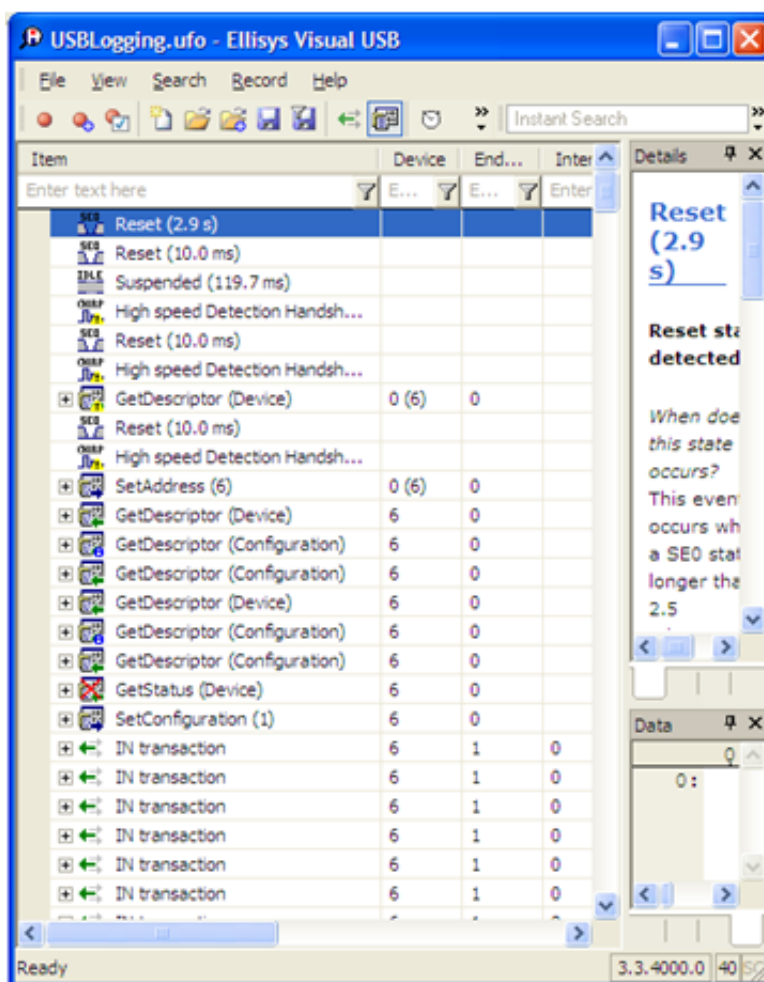

Figure 8. USB log showing USB transactions
12. Communication can be observed by using a USB packet analyzer as shown in Figure 8. USB analyzer used is Ellisys Visual USB viewer. The log file is inside "USB Log Files" folder in the AN4378SW.zip.